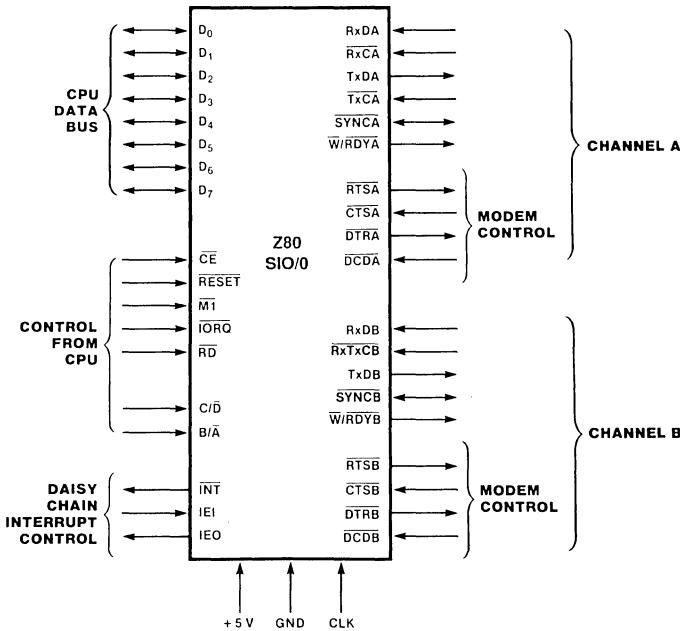

Figure 5. Pin Functions
**Asynchronous Modes.** Transmission and reception can be done independently on each channel with five to eight bits per character, plus optional even or odd parity. The transmitters can supply one, one-and-a-half, or two stop bits per character and can provide a break output at any time. The receiver break-detection logic interrupts the CPU both at the start and end of a received break. Reception is protected from spikes by a transient spike-rejection mechanism that checks the signal one-half a bit time after a Low level is detected on the receive data input (RxD A or RxD B in Figure 5). If the Low does not persist, as in the case of a transient, the character assembly process is not started.